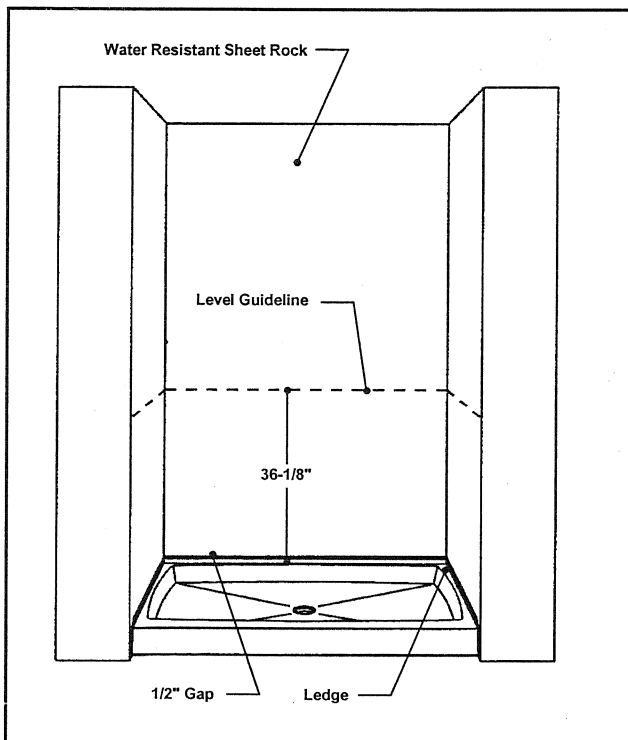
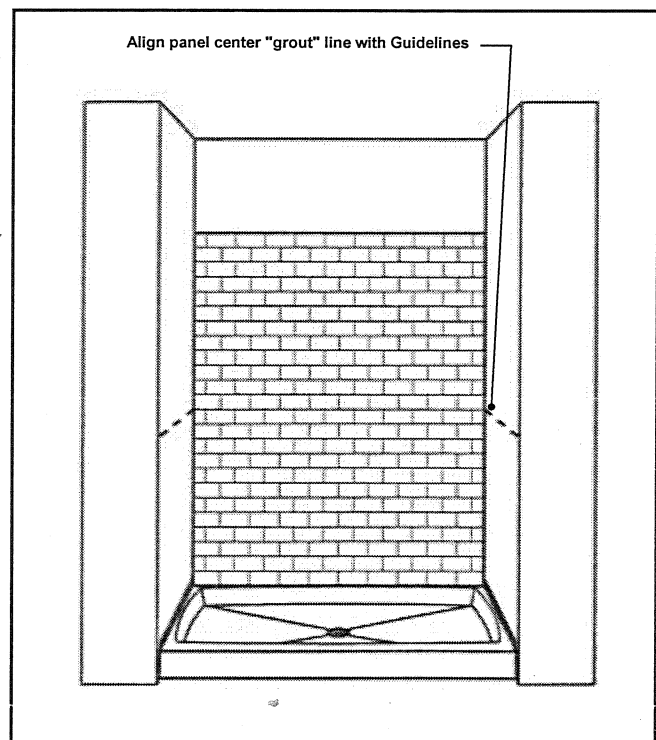

Fig. 5
Fig. 6
Step 6a. For Subway Tile panels only. Draw a level horizontal guide line 36 1/8" above the ledge of the showerbase on the back and side walls (Fig. 5). The panels are marked either right, left or back and indicate which end is up. Test fit the back panel (The larger "Left" panel for a neo-angle shower installation) with the center grout line aligning with the horizontal line marked on the wall (Fig. 6). Back wall panel should fit with a maximum clearance of 1/4" on each side and 1/16" to 1/8" above the shower base. If necessary, sand down the unexposed edges to fit. Temporarily brace in position and similarly check the fit of the side panels, aligning center grout lines with back wall center grout lines. Scribe and sand unexposed edges to fit. For cutouts see step 7.